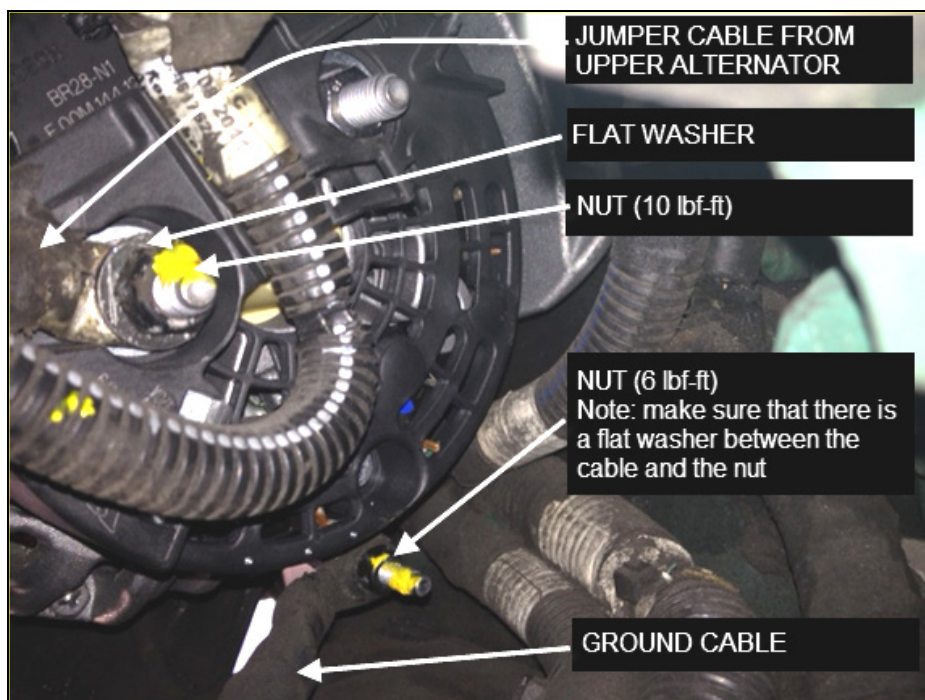

FIGURE 30
- a) Fit jumper cable (positive cable) onto **B1+** stud terminal on lower alternator (**FIGURE 30**).
- b) Place one new flat washer #5001341 against the cable ring terminal and screw new nut #5001983 (nut torque: 10 lbf-ft) (**FIGURE 30**).
- c) Fit the ground cable onto the alternator ground stud, place one new flat washer #502573 against the ground cable ring terminal and screw a new nut #5001182 (nut torque: 6 lbf-ft) (**FIGURE 30**).